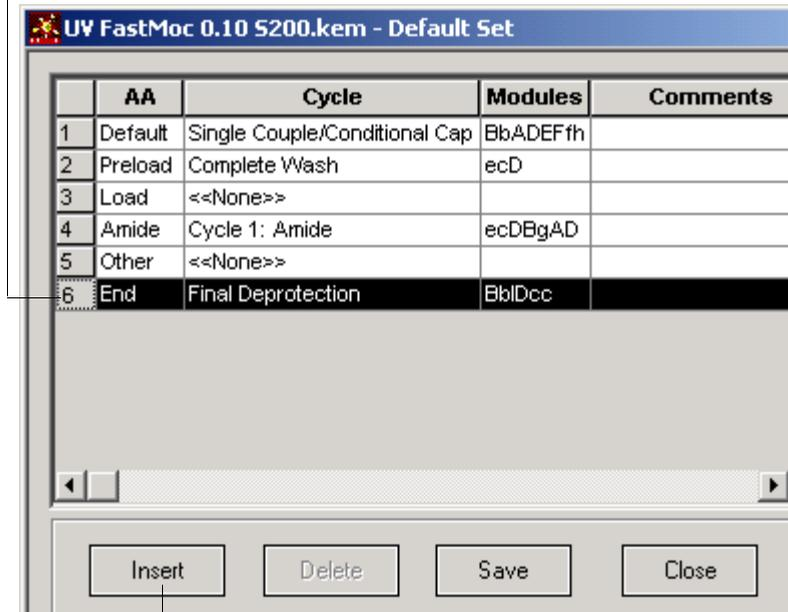

Figure 7-24 Inserting an Amino Acid
1. In the Default Set screen, click **End**, then click **Insert**. Repeat, to insert each subsequent amino acid (Figure 7-24).